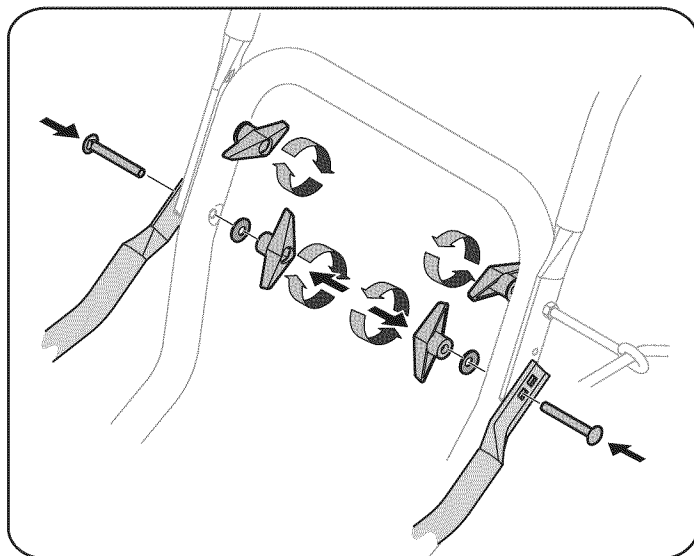

Figure 3
6. Secure the support bracket, upper handle and lower handle with the two wing knobs and carriage bolts removed in Step 3. See Figure 3.
7. Tighten the two wing knobs already installed in the upper holes to firmly secure the upper handle and support tubes. See Figure 3.